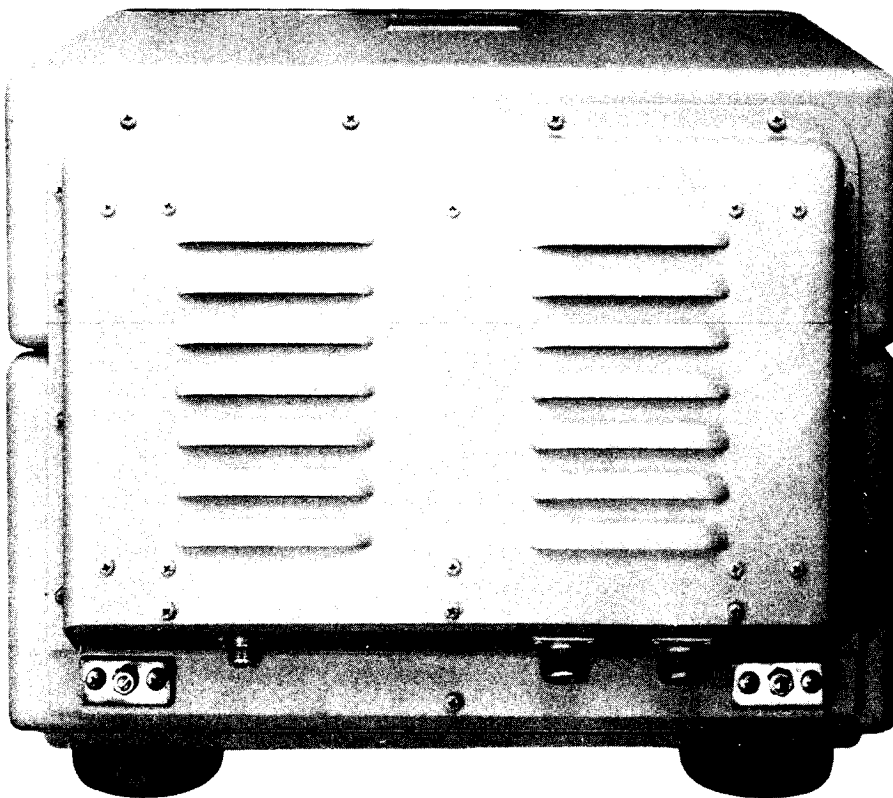

Figure 1-5. Rear View of Cabinet
d. CABLE FILTER ASSEMBLY. (See Figure 1-5.)—The cable filter assembly is located at the rear of the cabinet. The audio output line and the incoming AC line are filtered by this assembly. All input and output cables are connected at the bottom of the cable filter assembly. The power line fuses F401 and F402, and two spares F403 and F404, are located within this assembly. Access to all filter components is gained by removing the cover at the rear of the cabinet.